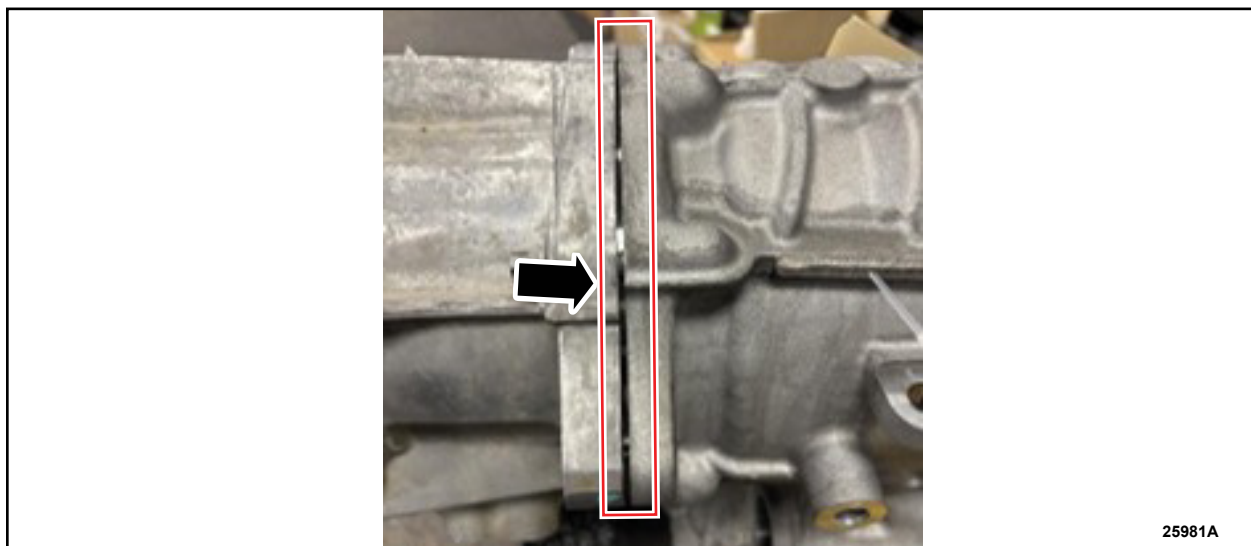

FIGURE 2
3. Visually inspect for a gap between the transmission and the transfer case. See Figure 2.